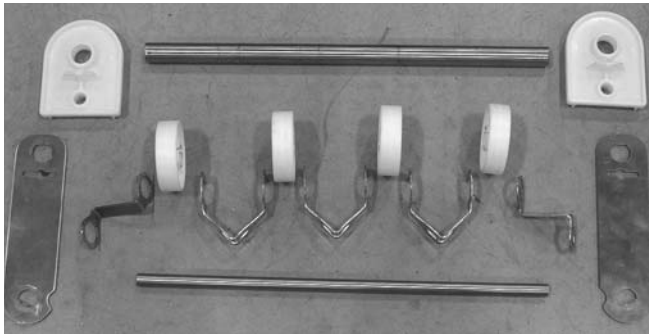

Figure 95
11. Replace components, as needed (**Figure 95**).